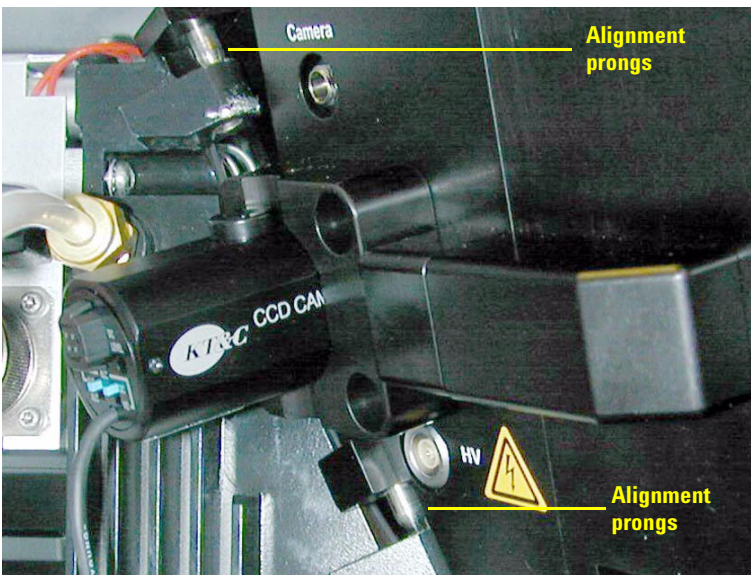

Figure 34 Slide the prongs into the hinge
- 11 For ease of installation, remove the side cover door. This will also prevent accidental damage to the CCD camera. Align the interface Flange prongs with the hinge on the Inlet Flange. See Figure 34. The CCD camera should be almost touching the instrument cabinet.